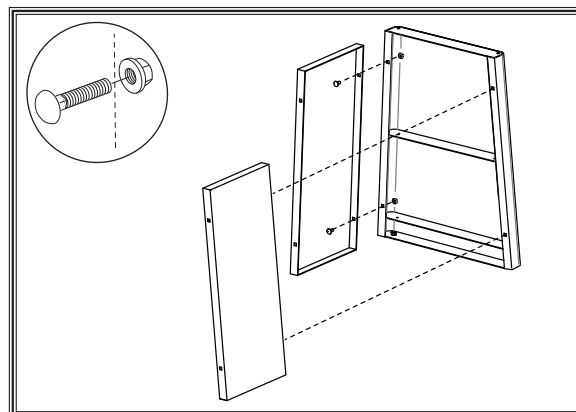

Figure 5. Side and rear panel installation.
1. Fasten the left and right panels to the rear panel, as shown in **Figure 5**, using (4) $\frac{5}{16}$ "-18 x $\frac{3}{4}$ " carriage bolts and (4) $\frac{5}{16}$ "-18 flange nuts.